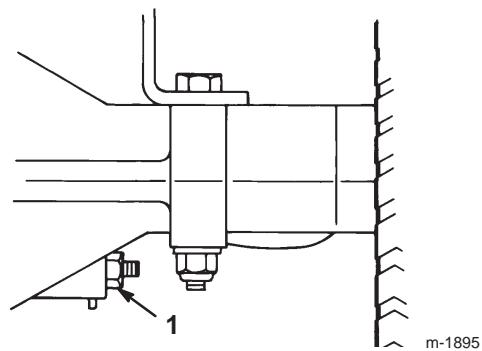

Figure 18
The brake is on the right side of the rear axle, inside the rear tire (Fig. 18). If the parking brake does not hold securely or has insufficient stopping power, adjust it.
- To increase the braking resistance, tighten the brake adjusting nut (Fig. 18) 1/8 turn clockwise.